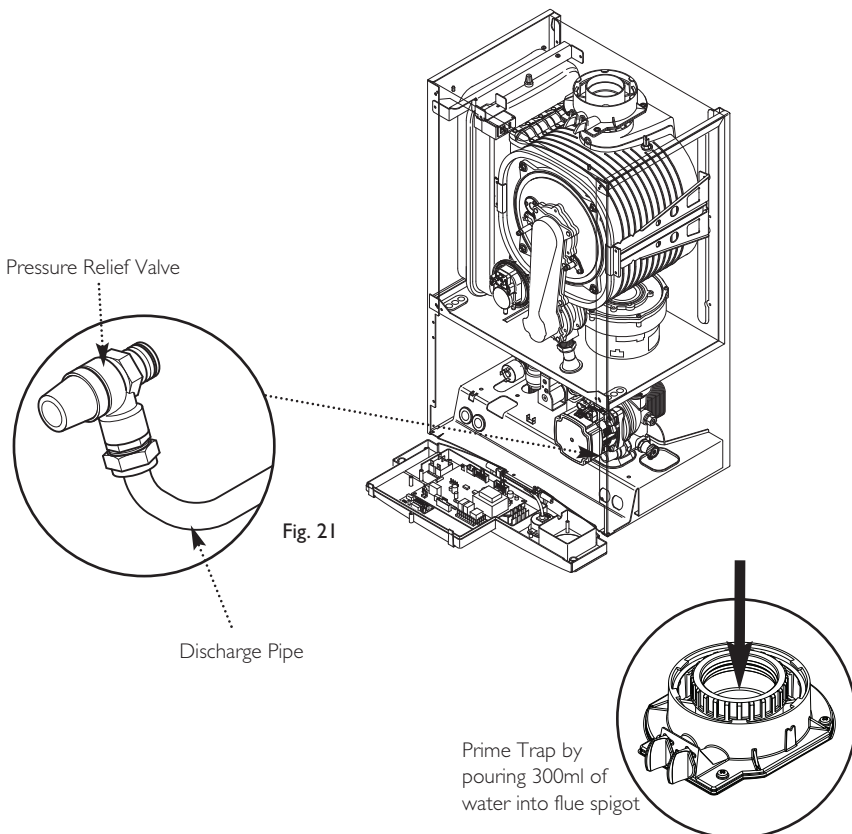

Fig. 21
9.5 Fitting the Safety Pressure Relief Discharge Pipe (Fig. 21)